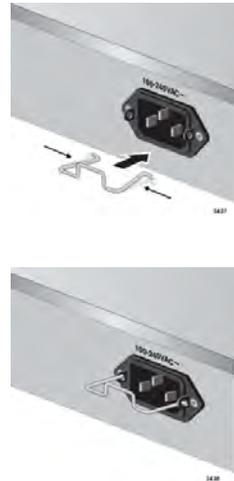

Figure 9. Inserting the Retaining Clip into the Retaining Bracket
2. Install the clip on the AC power connector on the back panel of the switch. With the “u” of the clip facing down, press the sides of the clip toward the center and insert the short ends into the holes in the retaining bracket, as shown in Figure 9.